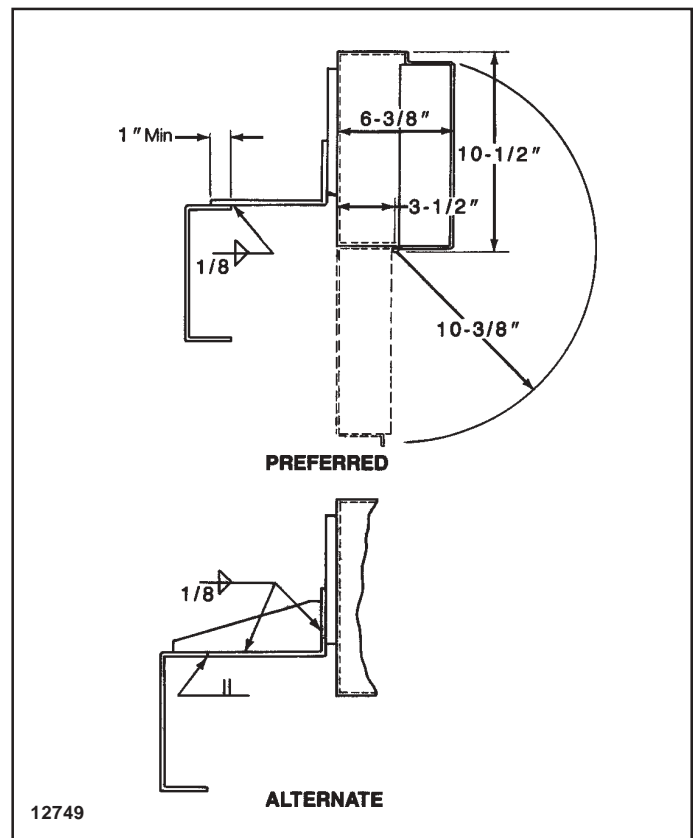

Figure 9.
11. The electrical enclosure is shown mounted on the inside of the truck over the gear reducer in Figure 17. The connecting bracket may be mounted in any of 3 vertical locations on the enclosure bracket when oriented as shown. It may also be rotated 180° (out standing leg at top) giving 3 additional positions. The enclosure bracket may also be adjusted horizontally on the enclosure. The connecting bracket may be welded to a truck or to the girder. If the bracket rests on the supporting member, a 1" minimum overlap is required. Weld as shown in Figure 9. If the bracket is to be supported by weld at the toe only, a stiffener plate must be furnished by the crane fabricator. Weld as shown in the alternate view in Figure 9.